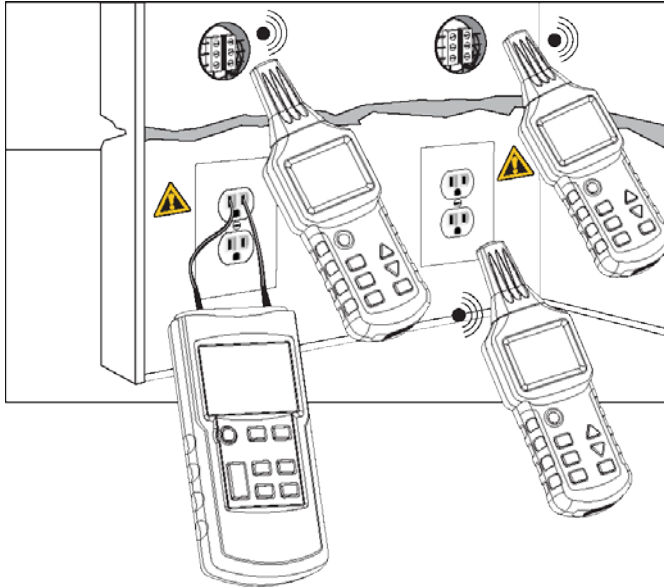

Fig. 18
- In energized circuits, the transmitter sends coded signals to the circuits to be detected, and also measures the voltage present, as shown in Figure 18: